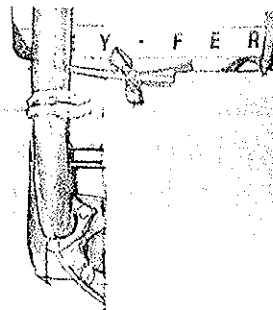

Figure 4
6. Straighten vinyl and tie to adjust all straps and springs for a proper fit. If gas model, remove back rip off patch as shown in Figure 4. For diesel models remove front patch.